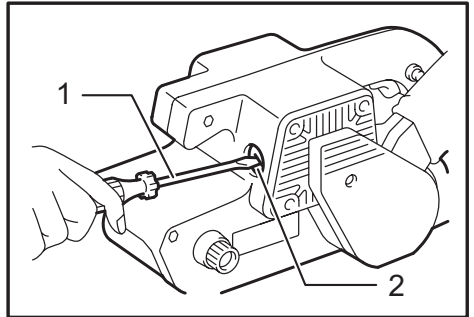

Fig.8
► Fig.8: 1. Screwdriver 2. Brush holder cap